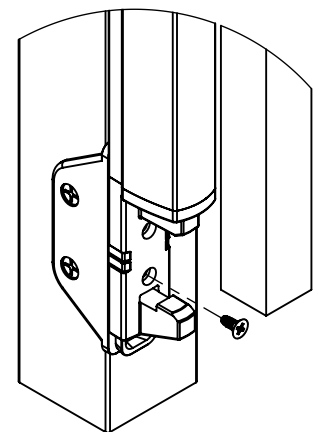

FIG. 6
3. Remove Latch Body and attach the Lower Bracket with the (4) supplied Flat Head mounting screws.
5. Position at proper height and secure with (1) #8 FlatHead Screw (Fig 6).